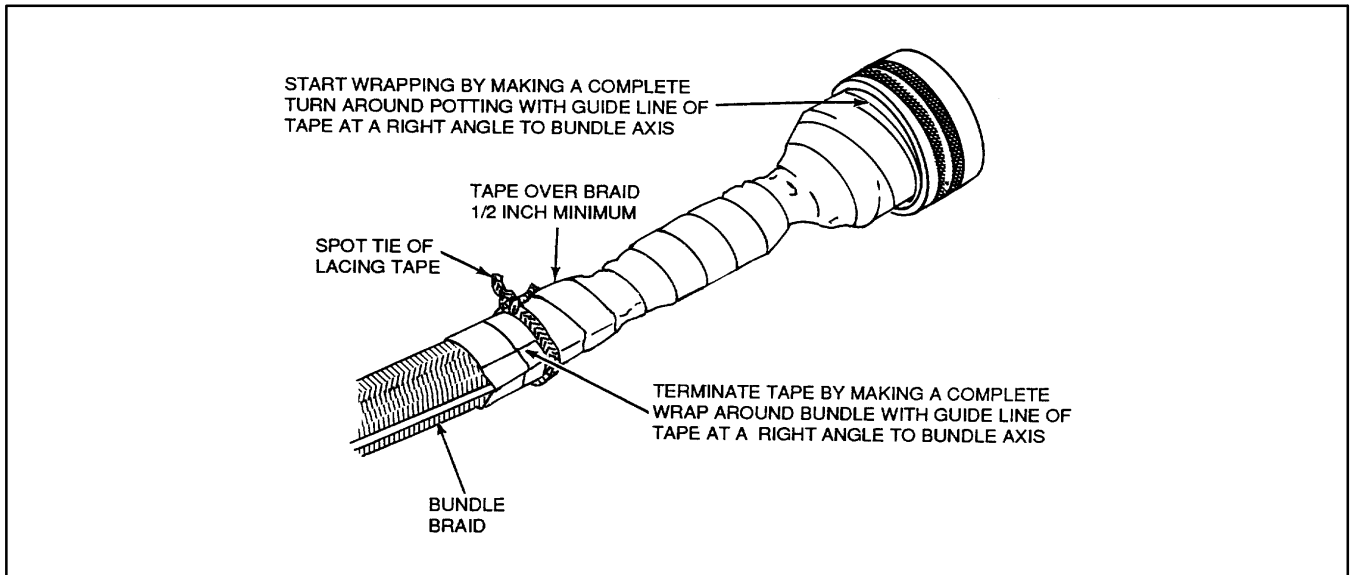
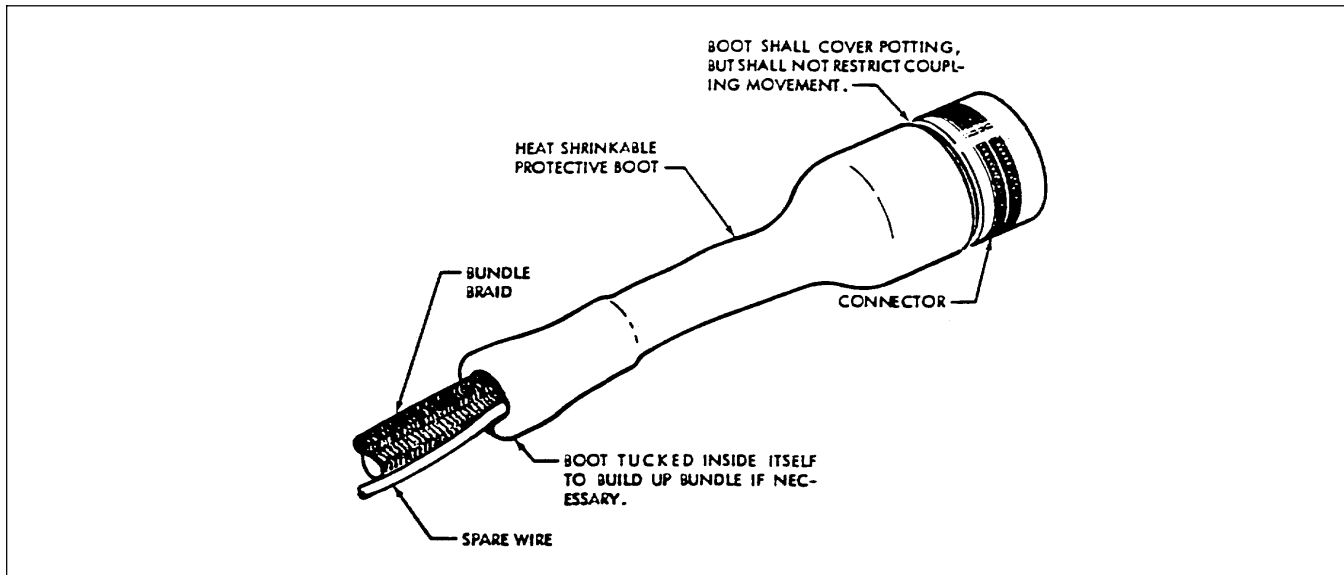

Figure 1. Tape Protective Boot
Figure 2. Shrink Protective Boot
9. **Protected Potting Boot Repair.** Since most overbraid ends near the end of the connector termination point, a boot must be fabricated from the end of the braid over the wire and over the back of the potting compound, which is connected to the connector. A protective boot (Figure 1) or a shrink protective boot (Figure 2) may be used.
10. **Fabricating Tape Protective Boot.** When a new boot must be fabricated use self-bonding tape as described below (Figure 1).